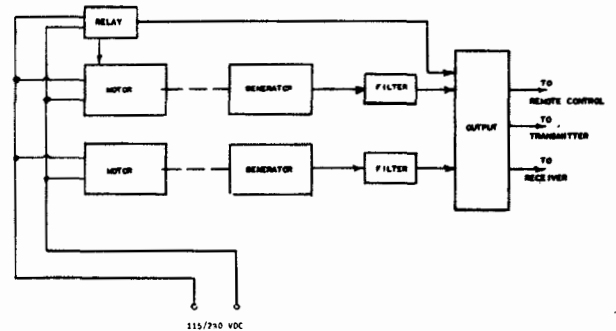

Fig. 2-40 Types -211100 and -21827-A Motor-generator Power Supply—Block Diagram
d. The Types -21827-A and -211100 (see figures 2-40, 2-41, 2-42, 2-43) Power Units employ two motors and two generators to supply the voltages necessary for the operation of the transmitter and receiver. The basic power input for these motor generators is the same for both types. Type 21827-A operates from a 230 volt dc source, and Type -211100 operates from a 115 volt dc source.